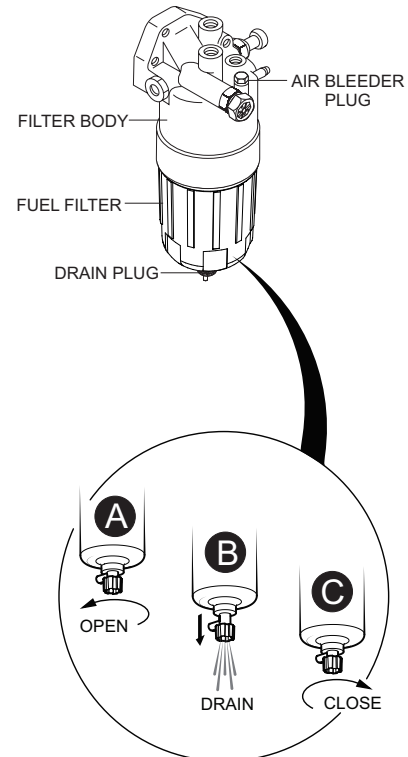

Figure 53. Draining The Fuel Filter
1. Loosen the **air bleeder plug** (Figure 53) on the fuel filter body.